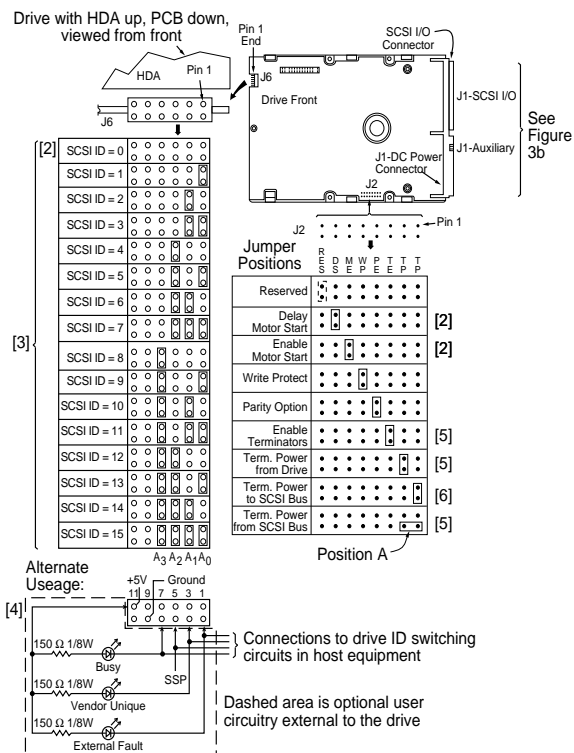

Figure 3a. Drive configurator Hawk 2 family
On "W" and "WD" model drives, make sure that the SCSI bus address jumper plugs are properly set for the bus address assigned to the drive. In some systems, a cable plugs into either J6 or J1 auxiliary, so drive ID can be set at some remote location. See figures 3a and 3b showing the bus address select header and the jumper configurations that select addresses 0 through 15. Typically the primary boot device is set to ID 0, and the subsequent SCSI drives are jumpered in ascending order. Bus addresses 0 through 14 should be used (the host adapter probably uses address 15).
Model ST12400W family drives have I/O line terminator resistors that are permanently installed, but can be enabled or disabled by jumper plug. See jumper in Figure 3a. If you are installing a single drive, the terminator resistors must remain enabled. If you are installing multiple hard disc drives, disable the termination resistors from all the drives but the one connected to the end of the SCSI I/O cable.
Model numbers that end in "WD" have differential I/O circuits and these drives and "WC" mode drives have no provisions for terminators on the drive PCB. The system manufacturer must provide some external means of I/O line termination. The ST12400W/WD drives can provide power for external terminators if the **TP** jumper is installed on the last position on the right end of J2. See Figure 3a.
Some systems require parity bit checking. Consult the system documentation for the specific requirements. See Figure 3a for location of Parity Bit enable jumper. Jumper-installed enables parity reporting by the SCSI bus.
On Hawk 2 family, W/WD model drives either J6 (on the front of the drive) or J1-auxiliary (at the rear, beside the DC Power connector) may be used to set the drive ID. To avoid possible incorrect ID setting, do not use both J1-auxiliary and J6 for ID selection. The following figures show where these headers are located on the different drives covered by this manual. See notes following Figures 3a and 3b where explanations are given about the purpose of each jumper and specify the standard factory (called "default") settings of these jumpers (i.e., settings used for most common single drive application). Changes to these settings should be made only if it is known that the system requires a different configuration.
Notes for Figure 3a, 3b and 3c:
- [3] Drive ID may be established by installing jumper plugs in one of the patterns shown in Figures 3a, 3b and 3c, or by plugging onto J6 or J1-auxiliary a cable that leads to an external ID selection circuit. Both jumper plugs and an external ID selection source should not be used. See [4] for other functions of these two headers that are time-shared with the drive ID function.